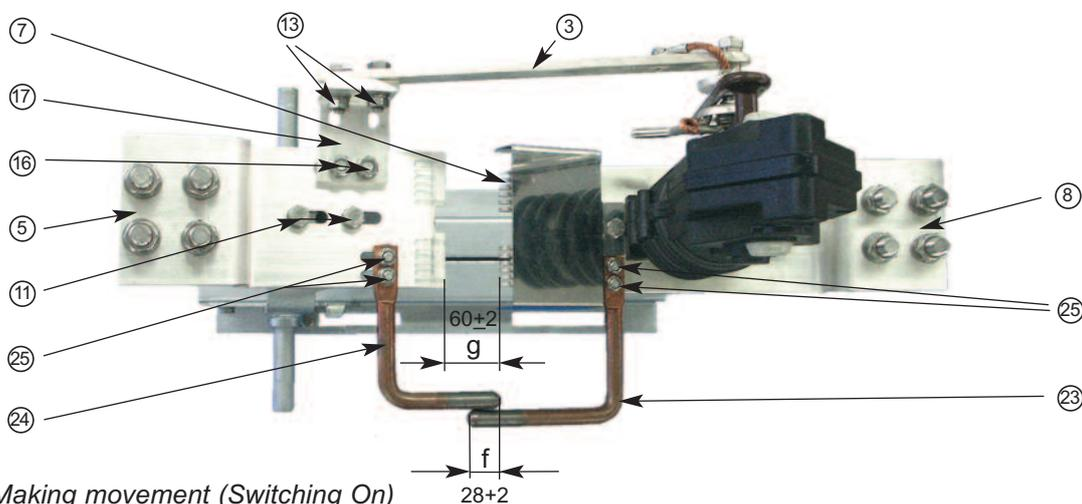

Fig. 29: Making movement (Switching On)
- Check pre-arcing horns (23), (24) for material loss (Fig. 29)
In this switch position the main contacts must still show a gap "g" of at least 50 mm (Fig. 29).
- After central adjustment of the contact arm (3) tighten the two fastening bolts M 10x35 (16) on the contact bracket (17) (Fig. 29) (Tightening torque: 32 Nm)
Adjustment of main contacts for the making movement: (Fig. 29)